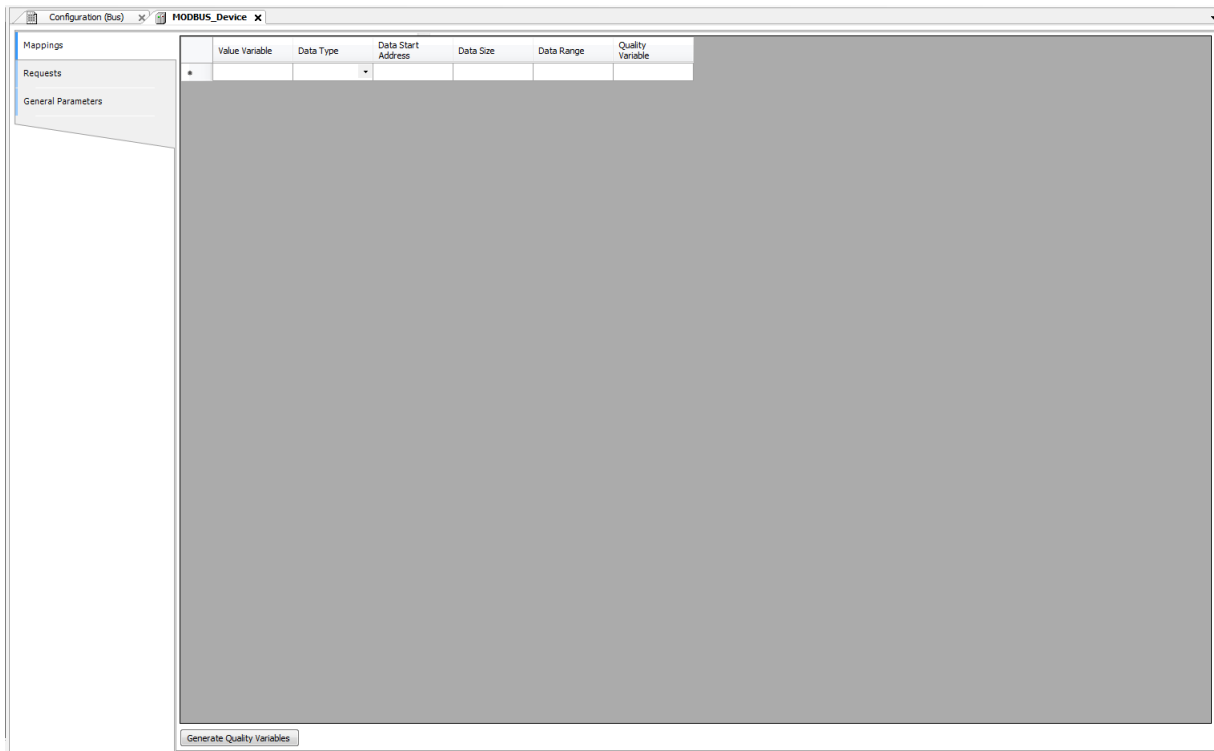

Figure 45: MODBUS Data Mappings Screen
- Add and configure the MODBUS mappings on Mappings tab as Figure 45, specifying the variable name, data type, and the data initial address, the data size and range are filled automatically.